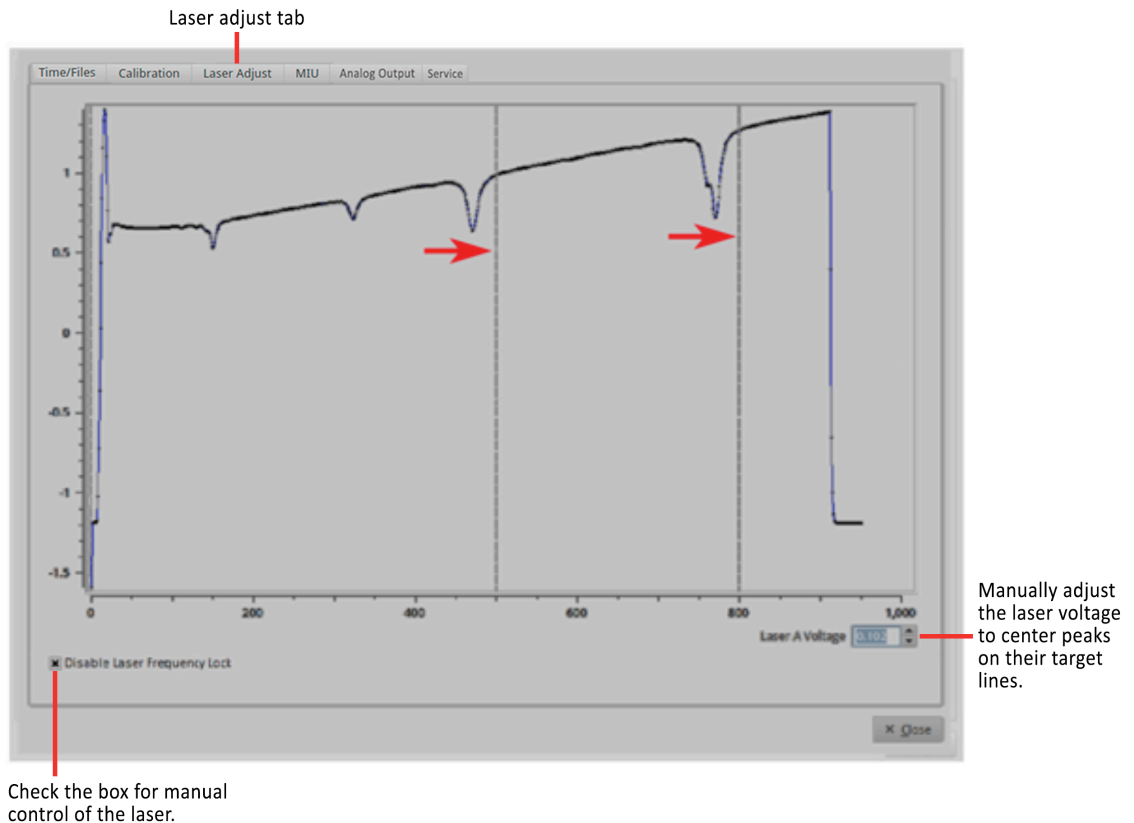

Figure 33: Absorption peaks off of target lines. Laser voltage adjustment needed.
Use the *Laser Adjust* tab to manually adjust the laser's wavelength to compensate for any cumulative drift. (Figure 33)
Figure 33 shows the offset between absorption peaks and target lines.
2. Select the **Laser Adjust** tab at the top of the screen. (Figure 33)
Every 3-6 days	<ul style="list-style-type: none">• Check the Laser Offset and adjust if necessary. (Figure 33)